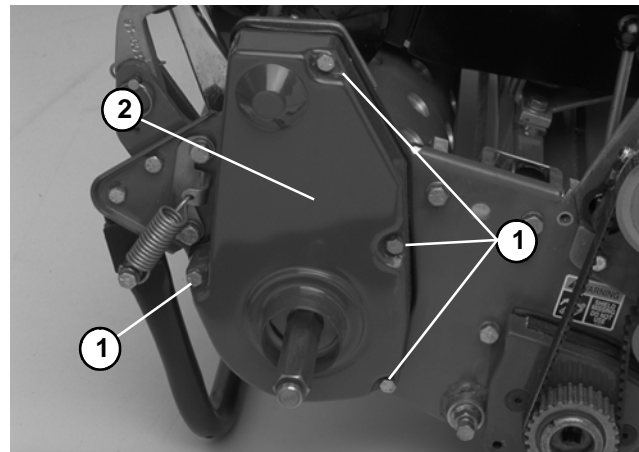

Figure 4
B. Remove cap screws, lock washers, and belt covers from the side plates (Fig. 4).